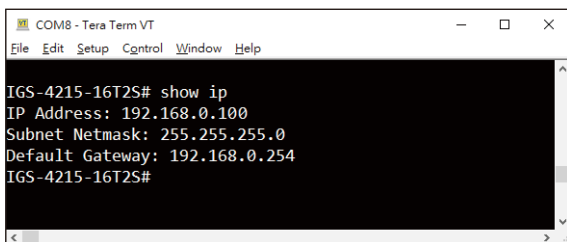

Figure 4-2: IP Information Screen
2. The screen displays the current IP address, subnet mask and gateway as shown in Figure 4-2.